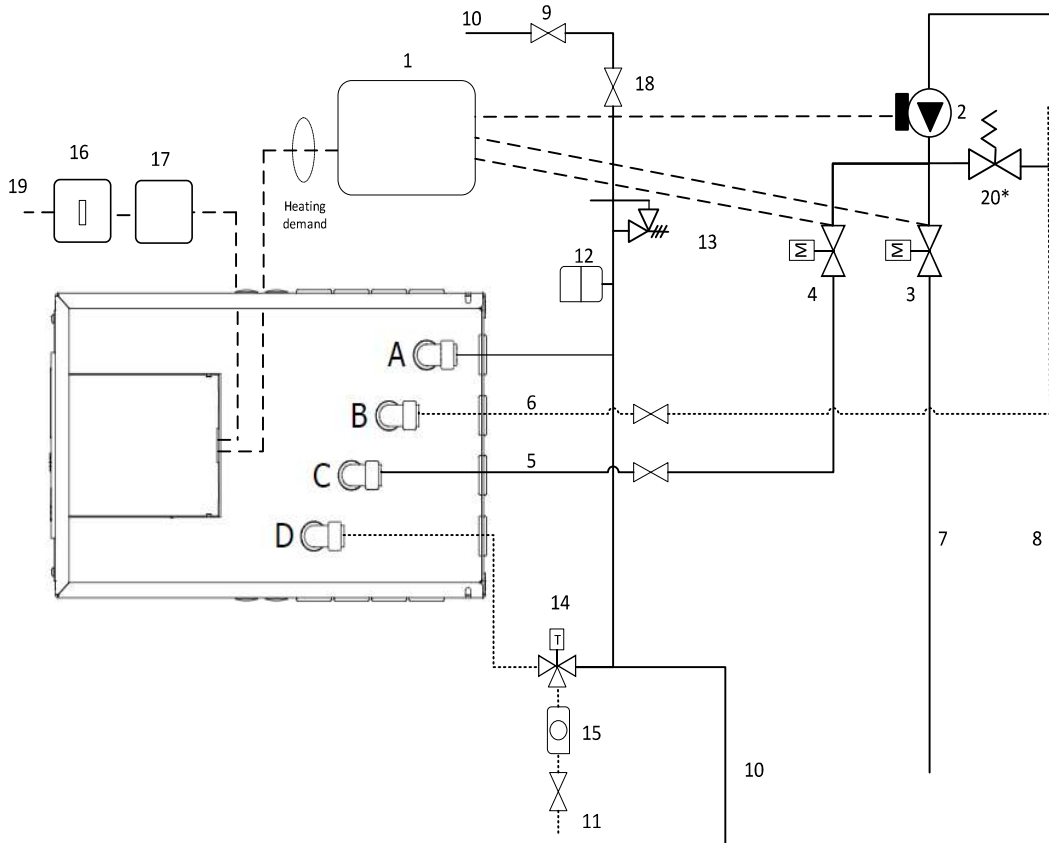

Figure 14.1: Example wiring option 1 schematic (see Figure 3a for piping and electrical options available)
- Run and connect 4 Core mains power supply cable (16A, minimum 2.5mm² CSA) from the Solar Power Diverter to the Heat Battery. (Figures 14.1,14.2 & Section 3.9).